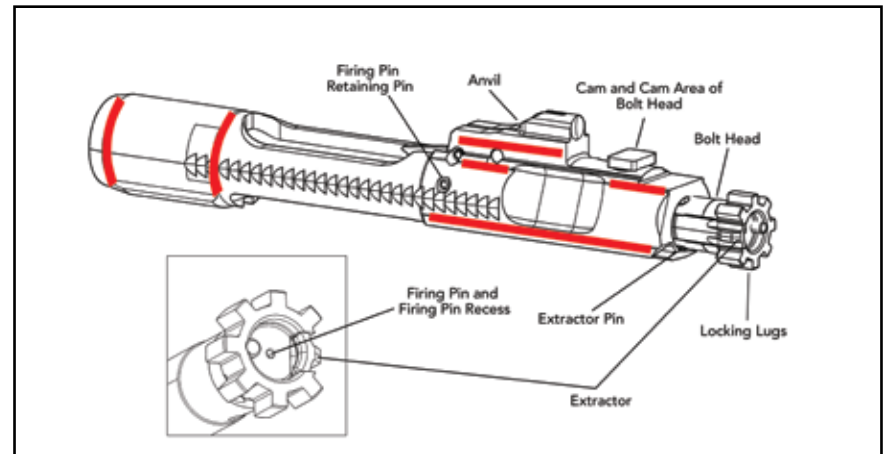

Fig. 70 – Lubrication of the MR556A1 Bolt Carrier Assembly
2. Apply a light coat of lubricant to the extractor pin, the firing pin, firing pin spring, firing pin recess in the bolt. Apply a medium coat of lubricant to the red areas (Fig 70).
3. Apply a medium coat of lubricant to the extractor (Fig. 70).